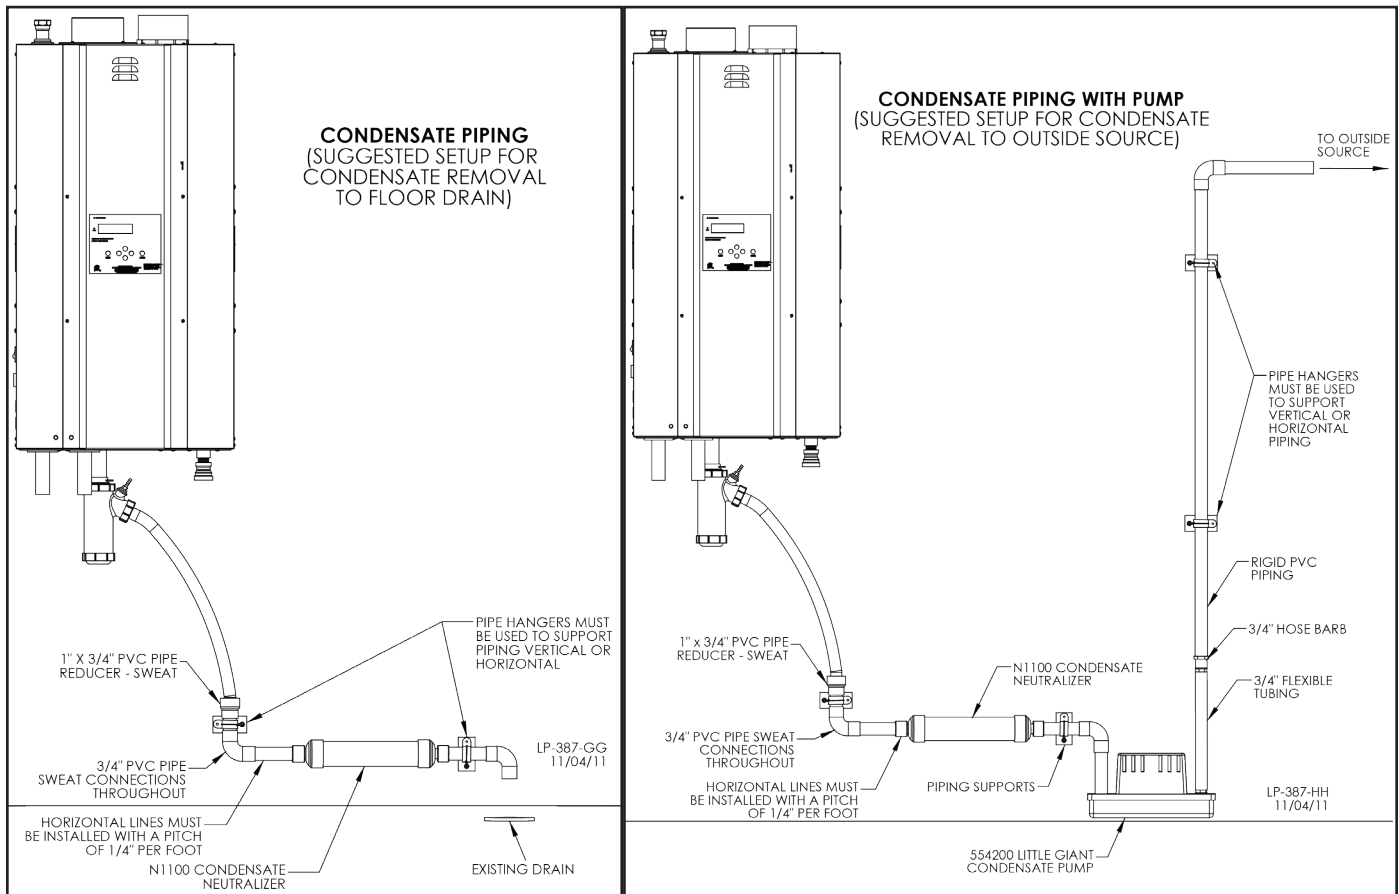

Figure 26 - Condensate Piping Suggestions
Condensate from the boiler is slightly acidic with a pH of 3.2 - 4.5. To avoid long term damage to the drainage system and to meet local code requirements, HTP recommends neutralizing condensate with a Condensate Neutralizer Kit (Part # 7450P-212 for EL-80/110/150/220/299/301, Part # 7350P-611 for EL-399). The neutralizer kit connects to the drain system and contains limestone chips that neutralize the pH level of the condensate. The neutralizer kit should be checked annually and the limestone chips replenished if necessary. When replacing the limestone chips, take care to ensure chips are no smaller than 1/2" to avoid blockage in condensate piping (refer to Figure 26 for piping of the condensate neutralizer.)
5. Run condensate drain hose to 1" PVC or CPVC drain pipe. See Figure 26.